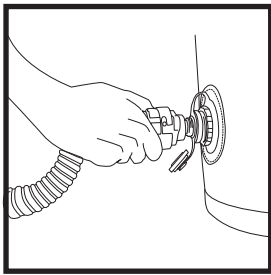

Fig. 2
4. Use the pump to inflate the module until it gets its shape, but it is not completely taut (Fig. 2).